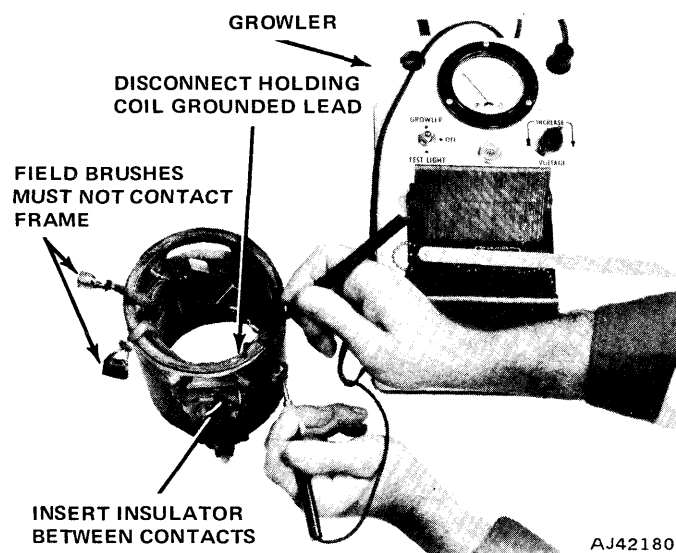

Fig. 3-41 Field Grounded Circuit Test
(1) Place insulated brushes aside to prevent their touching any part of starter (fig. 3-41).
(2) Remove screw attaching solenoid point assembly brush lead to frame. **Do not** allow ground brush to contact starter.
(3) Connect one test probe to terminal screw and one test probe to starter frame. Test lamp should not light. If lamp lights, field windings are shorted and must be replaced. A loose rivet on solenoid point assembly could also cause a grounded circuit.
(4) Touch one probe to terminal and one probe to brushes (not single ground brush). Test lamp should light. If lamp does not light, check for poor or broken connections.